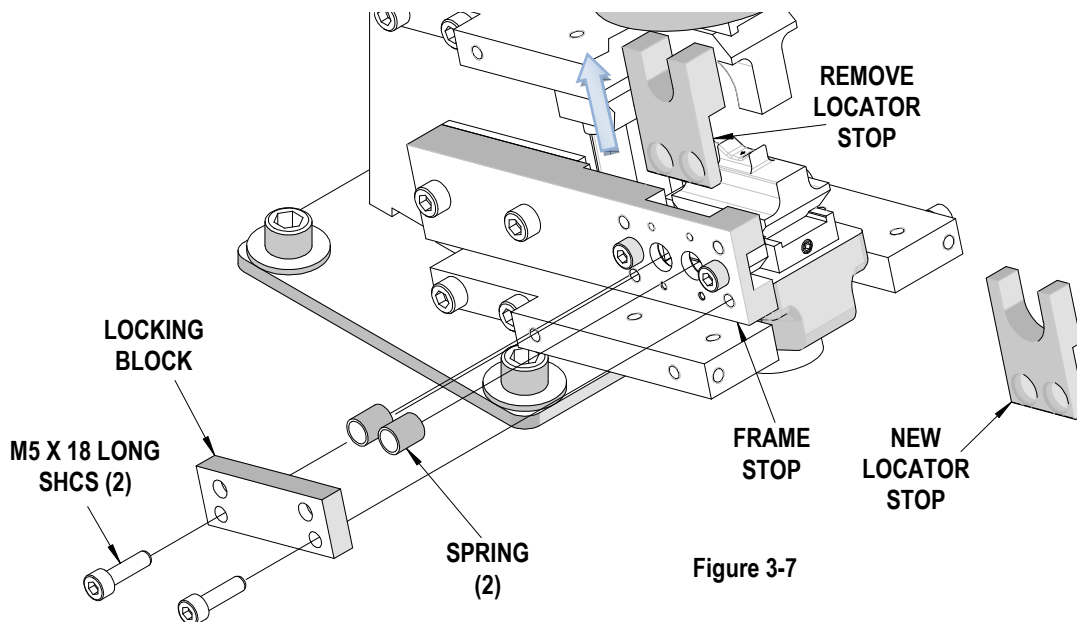

Figure 3-7
8. To change the locator stop remove the (2) two M5 x 18 long SHCS on the locking block.
9. Remove the (2) springs in the frame stop.
12. Replace the (2) springs and the locking block.
13. Install the (2) two M5 x 18 long SHCS on the locking block and tighten. See Figure 3-7.